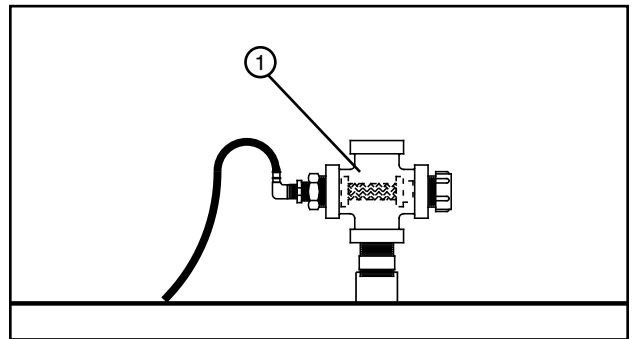

Figure 95-2 1. Cross Filter
- Clean the end gun shut off solenoid valve cross filter or optional dirty water filter. See figures 95-2 and 95-3.